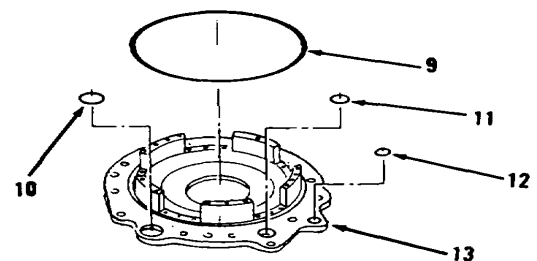

Figure 14-42.
6. Remove seal (9) and seal rings (10, 11 and 12) from housing (13, Figure 14-42).